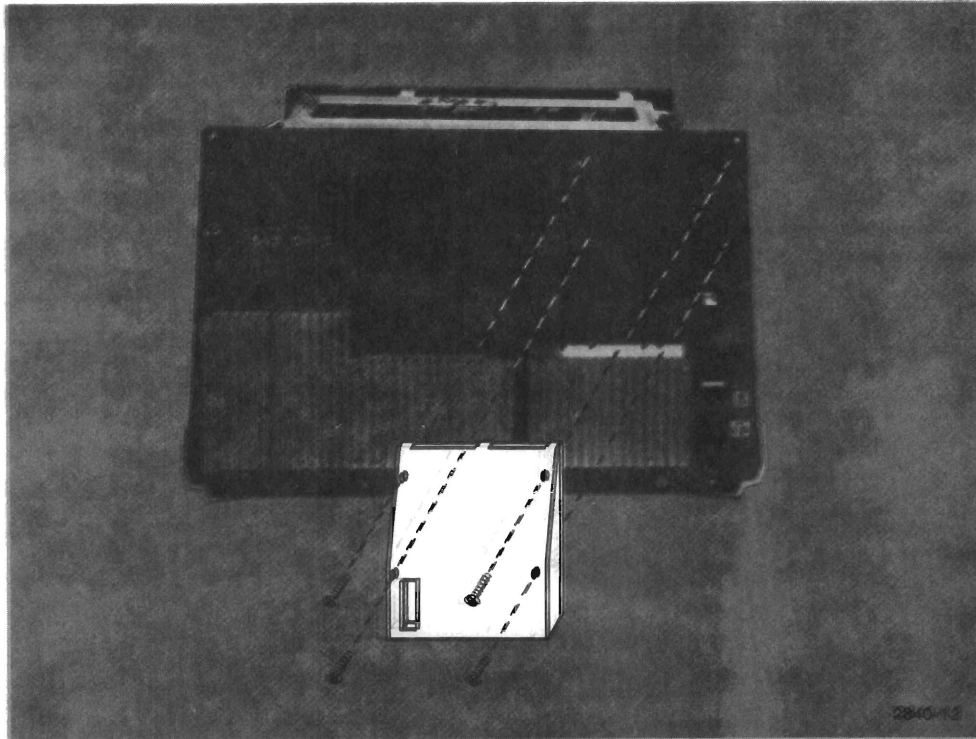

Figure 3-23. 4054 Backpack Removal.
3. The backpack is removed by unscrewing the four Phillips screws (Figure 3-23). Next pull gently near the bottom of the backpack to separate the card edge connectors. Note that the shorter screws were removed from the top of the backpack.